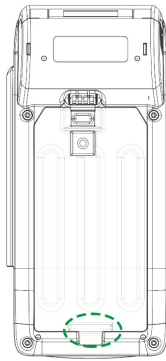

Figure 8
STEP 1: Push the latch to pull the bottom cover from AT-150 as Figure 8.